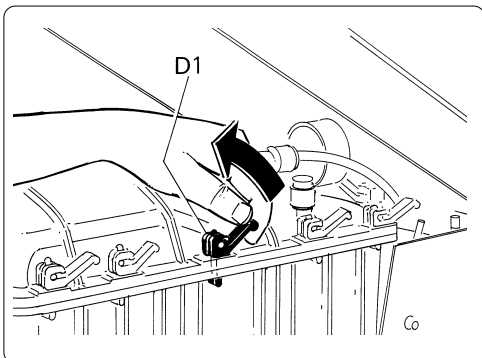

Fig. 33
h) Separate the tank from its cover, undoing the fasteners (D1) by pulling them upwards as shown in fig. 33.